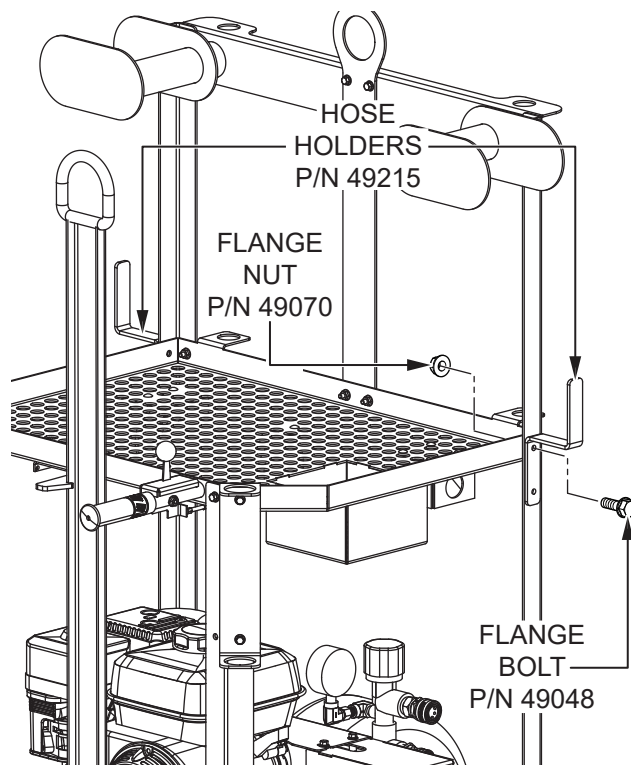

Figure 13. Hose Holder Installation
10. Secure the two hose holders (P/N 49215) to the tool tray and front upright frame mounts with four 1/4-20 x 3/4" flange bolts (P/N 49048) and four 1/4-20 flange nuts (P/N 49070). See Figure 13.